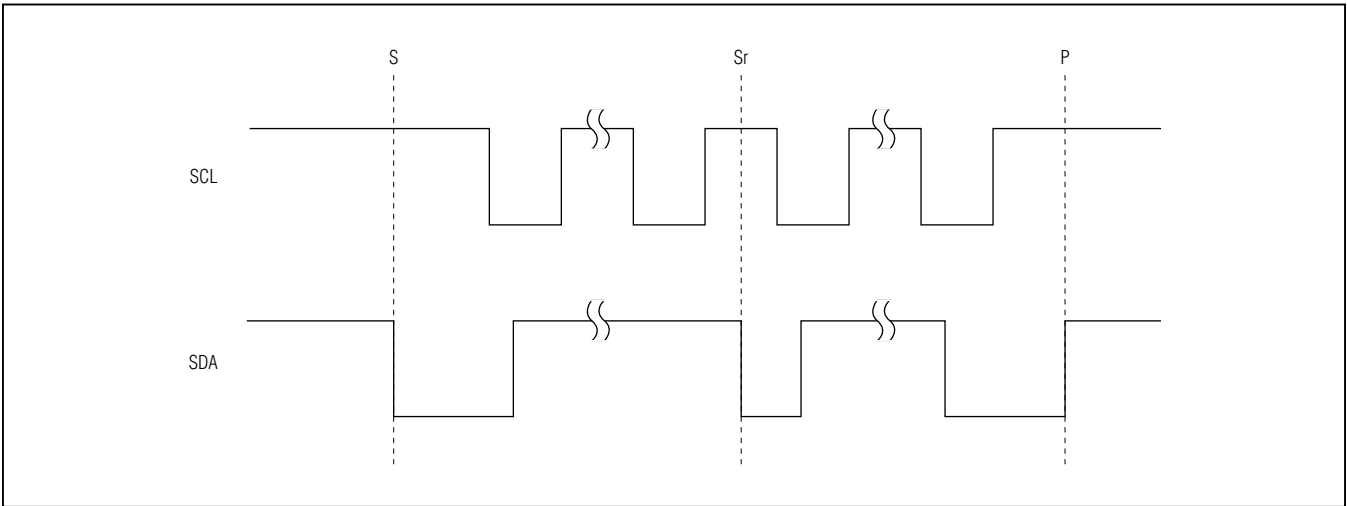

Figure 7. I2C START, STOP, and Repeated START Conditions
When writing to the MAX14640/MAX14651 using I2C, the master sends a START condition (S) followed by the MAX14640/MAX14651 I2C address. After the address, the master sends the register address of the register that is to be programmed. The master then ends communication by issuing a STOP condition (P) to relinquish control of the bus, or a Repeated START condition (Sr) to communicate to another I2C slave. See Figure 7.